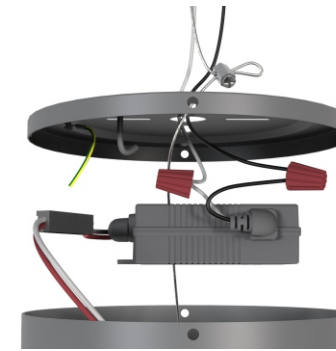

Fig 2.3
2.3 Confirm the wire plug of the motor connecting to the wire plug of the Adapter. The Green/Yellow wire from mounting plate connects with the supply Ground wire using the wire nut. Connect the White wire of the Adapter to the supply White(Neutral) wire using a wire nut, connect the Black wire of the Adapter to the supply Black (Hot/Live)wire using a wire nut. Then hide them and the Adapter into the motor assembly.(Make sure all the wires are connected to the correct colors as shown in Fig 2.3.)Attach the other end of safety rope to a safe place.